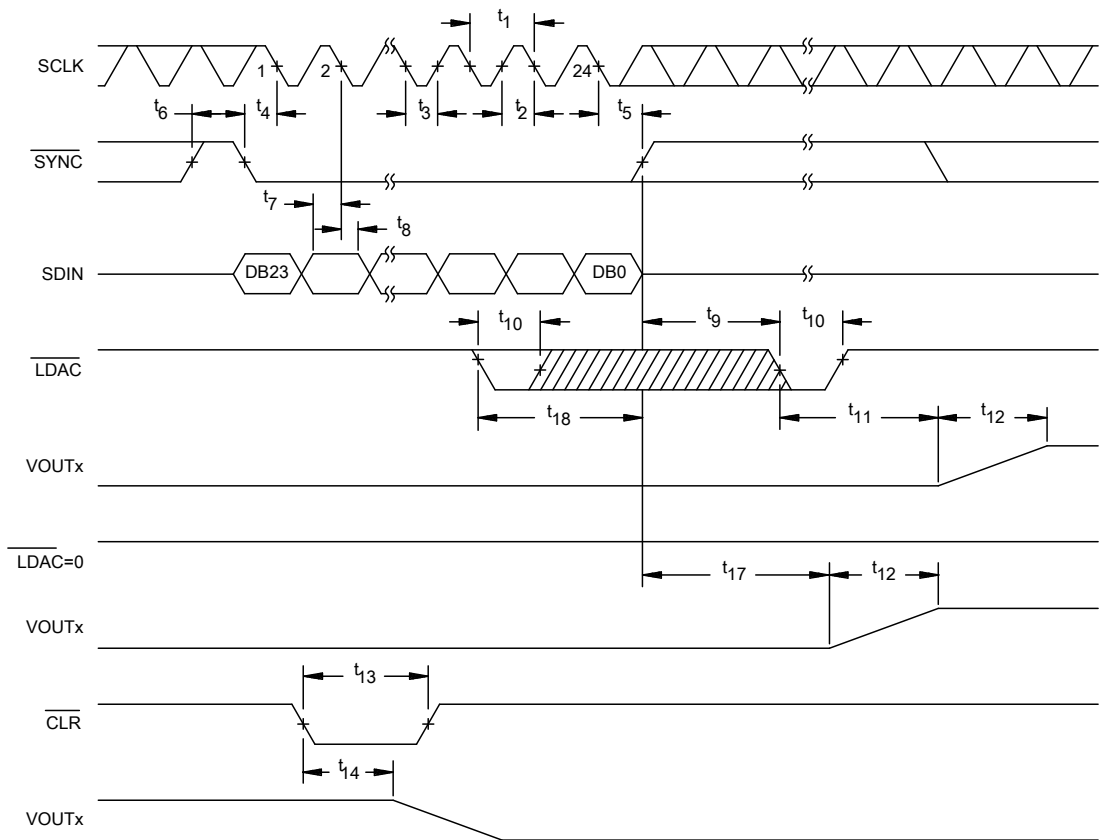
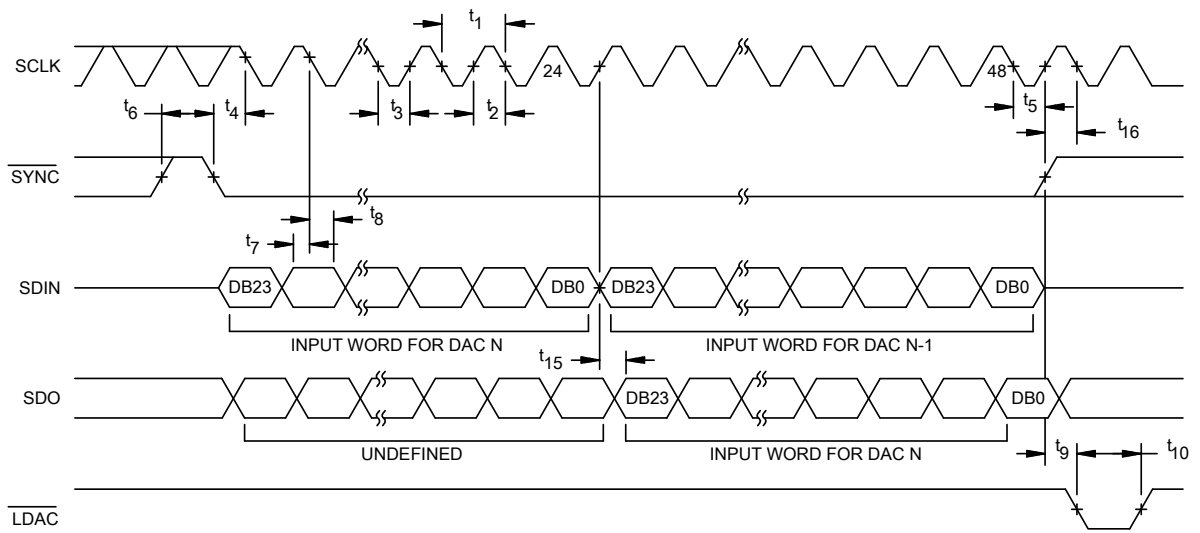
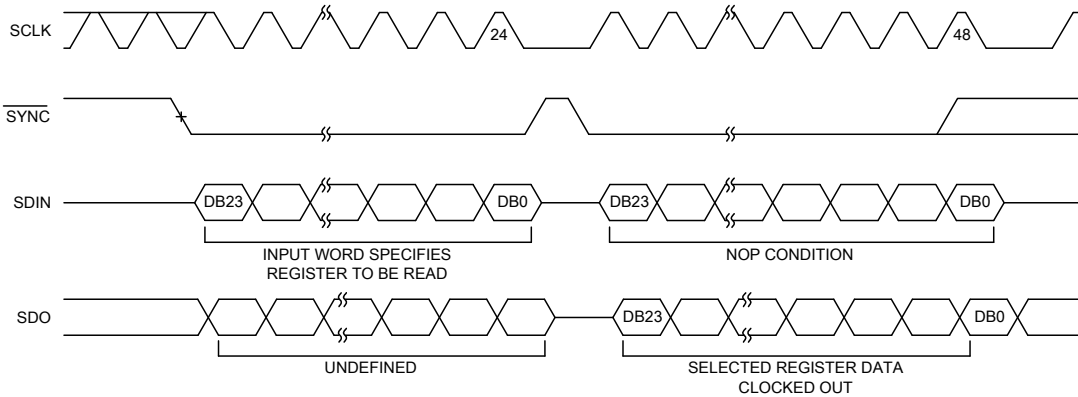

FIGURE 6. Serial interface timing diagram.
FIGURE 7. Daisy-chain timing diagram.
FIGURE 8. Readback timing diagram.
- 7/ See Figure 6, Figure 7, and Figure 8.